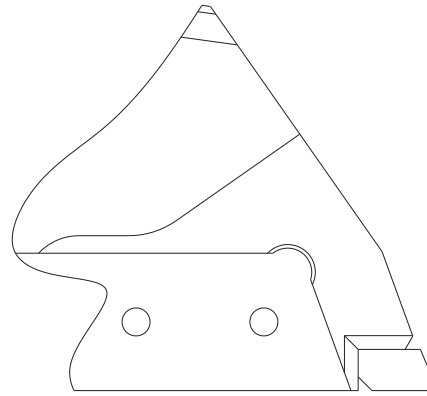

FIGURE 5-30
3. To completely prepare the surface for the new tip, the upper must be chamfered as shown (see **Figure 5-30**). The chamfer size should be approximately one-half the thickness of the new tip.